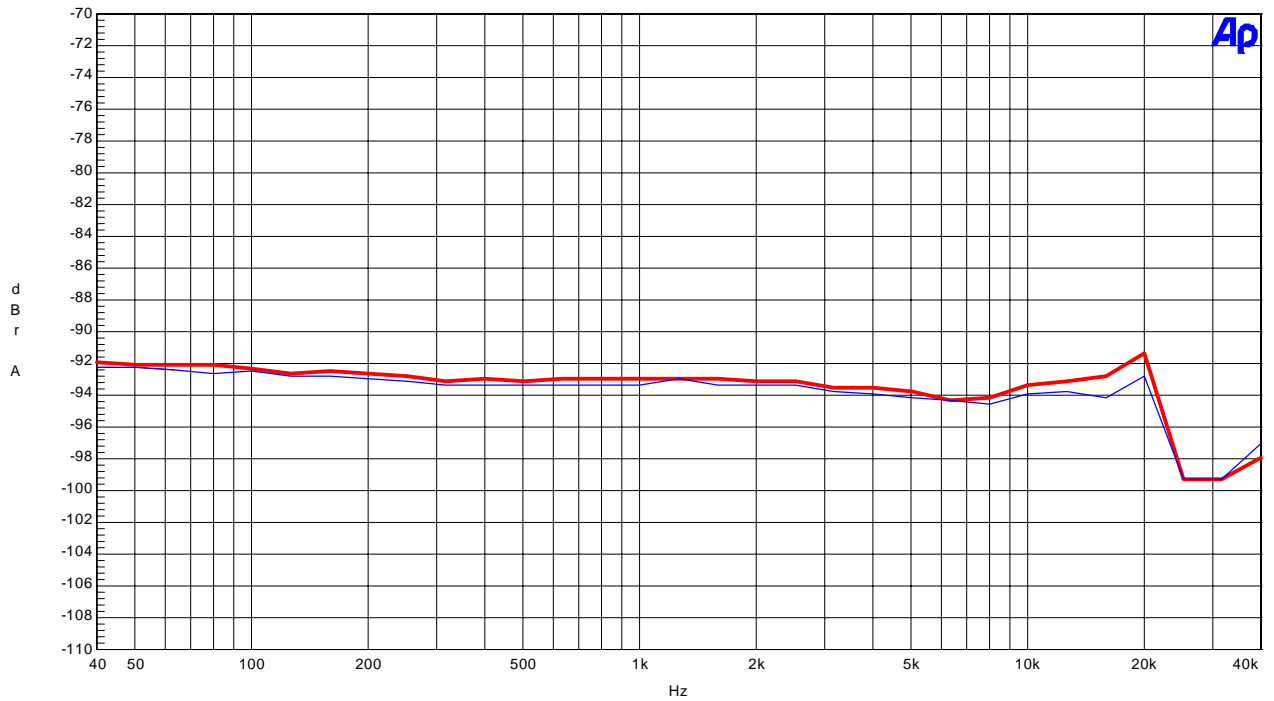

Figure 15. THD+N vs fin (Input Level=0dBFS)
- Figure 15. THD+N vs fin (Input Level=0dBFS)